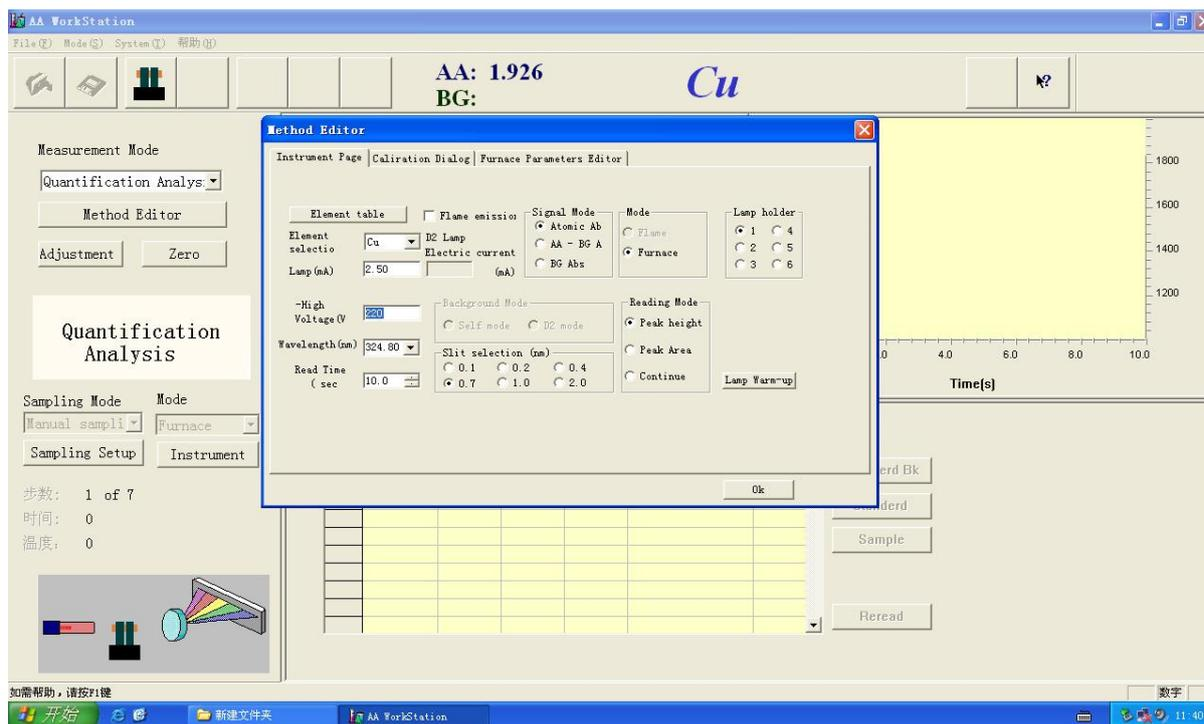

Figure 4-16
6. Negative high voltage choosing. Input the negative pressure value in the “-high voltage “text box. The value is between 0 and 800V (Figure 4-16).